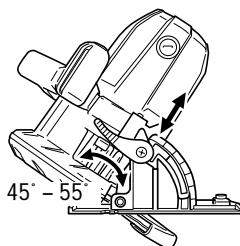

Fig. 5
If you use inclination angle of over 45°, as shown in Fig. 5 move the lever (A) to inside, the saw blade may be inclined to a maximum angle of 55° in relation to the base.